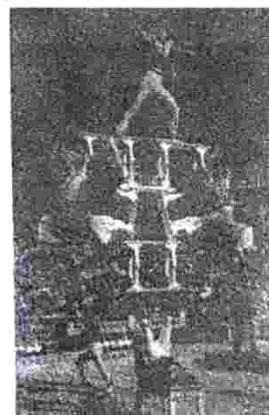

Fig. 9.13
**EXAMPLE 13.** In a human pyramid in a circus, the entire weight of the balanced group is supported by the legs of a performer who is lying on his back (as shown in Fig. 9.13). The combined mass of all the persons performing the act, and the tables, plaques etc. involved is 280 kg. The mass of the performer lying on his back at the bottom of the pyramid is 60 kg. Each thighbone (femur) of this performer has a length of 50 cm and an effective radius of 2.0 cm. Determine the amount by which each thighbone gets compressed under the extra load.